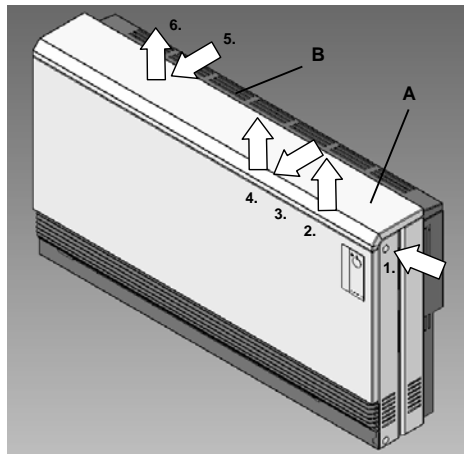
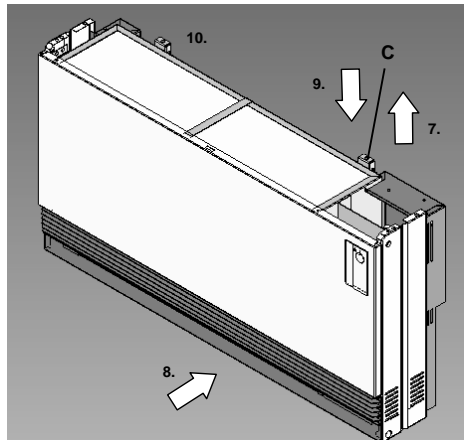

Fig.8 Open the heater
Fig.9 Hang the heater into the wall brackets
Open the heater as described in steps 1-10 (page 30, Fig. 8+9) and hang it onto the wall brackets.
- Open the heater (Fig.8):
2. Lift the top panel (A) approx. 10mm.
5. Pull the rear top panel (B) forwards.
- Hang the heater onto the wall-mounting brackets (Fig.9):
32. Replace the rear panel cover and outer covering in reverse order to their removal - Steps 1 to 6 (Fig.8).